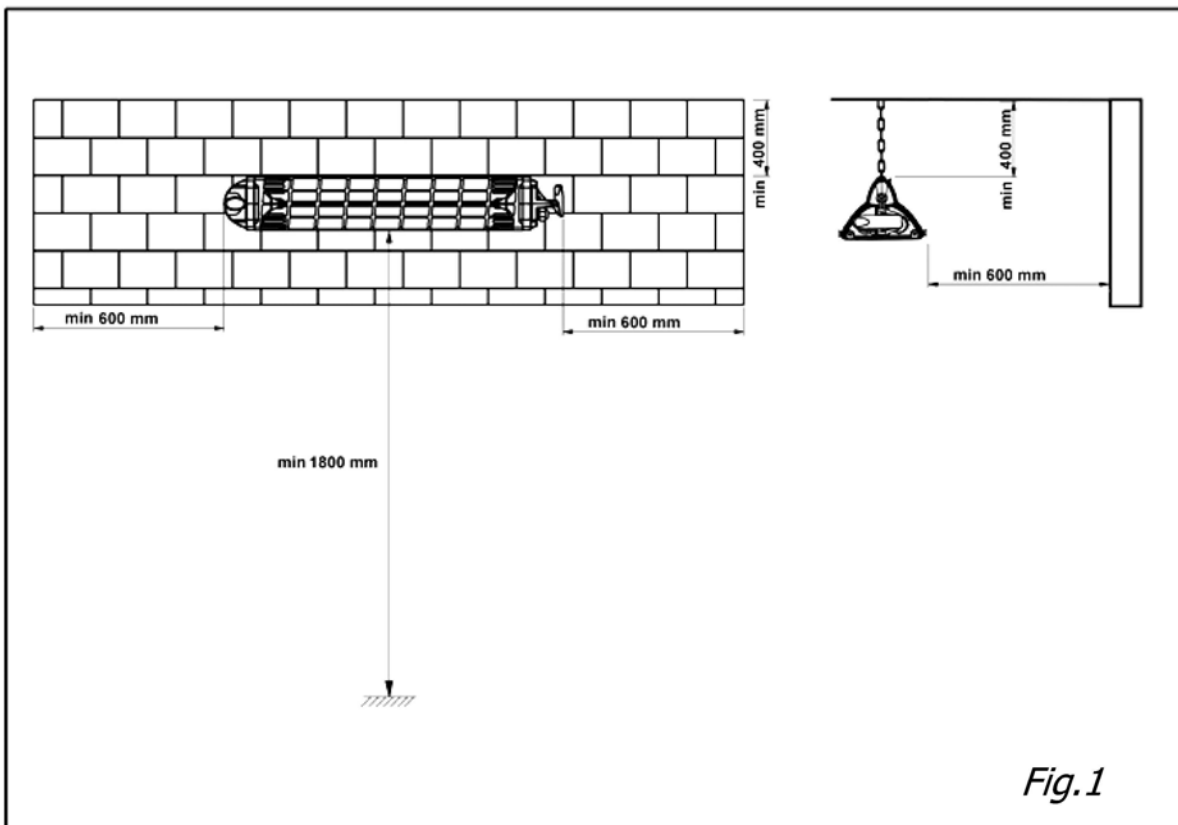

Fig.1
- A minimum air gap of 400mm should always be allowed between the top of the heater and a ceiling or roof. The appliance should be 600mm away from the walls (fig.1).
- This unit should be mounted at a minimum of 1800 mm above ground level (fig.1). If installed in a toilet, the height should be 2250 mm in zone 1 and zone 2; in zone 3 the minimum above ground level is 1800 mm, according with the rules of each Country.